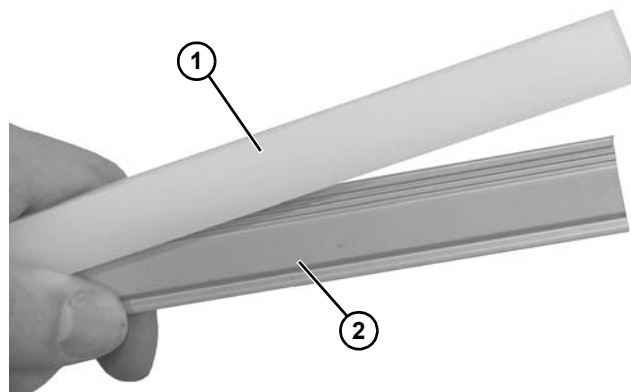

Figure 86
- Attach slide rail (**Figure 86, item 1**) to guiding (**Figure 86, item 2**).